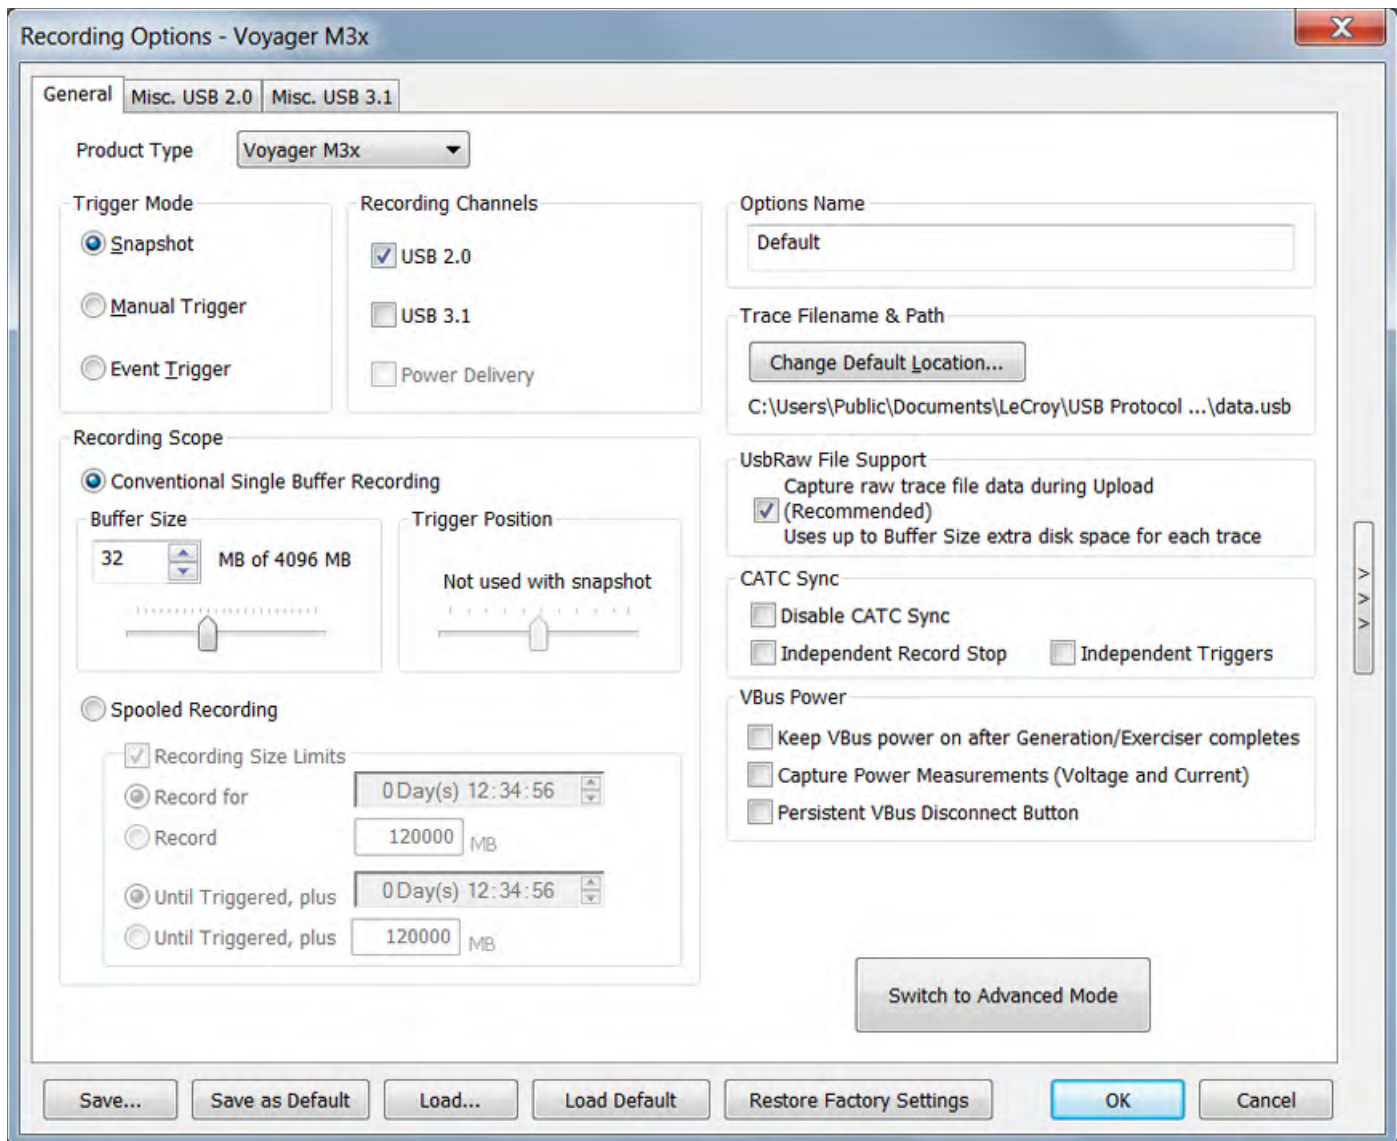

Figure 10.11: Voyager M3x: Recording Options General Tab in Simple Mode
The Trigger options for Misc. Power Delivery (PD)/Channel Configuration (CC) events are the same in both Simple and Advanced Mode. See Figure 10.11 on page 340.